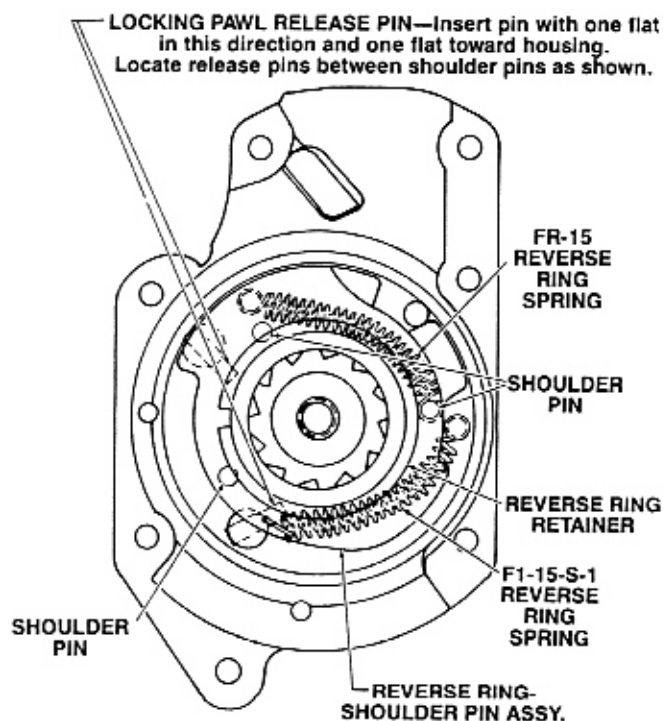

FIGURE 4-4. REVERSE RING ASSEMBLY FOR AGI AND ATGI HOISTS
- e. Turn reverse lever (41) to "Down" position so that reverse ring stop pin (36) is pulled in. Apply a coating of Duff-Norton H-7613 grease, or equivalent, to mating surfaces of right frame (48) and reverse ring-shoulder pin assembly (26). Place reverse ring shoulder pin assembly on right frame. See figure 4-4. Make sure that reverse ring-shoulder pin assembly is located so that when installed, locking pawl release pins (27) will be located as shown in figure 4-4. Install reverse ring retainer (22). Line up two flats on locking pawl release pin and drive pin into locking pawl until the outside end of pin is flush with locking pawl. Install remaining locking pawl release pin in the other locking pawl. Install reverse ring springs (24 & 25). Apply a light coating of Duff-Norton H-7613 grease, or equivalent, to reverse ring-spring assembly (-23) and fill cavity in sprocket shaft (32) with a grease gun.